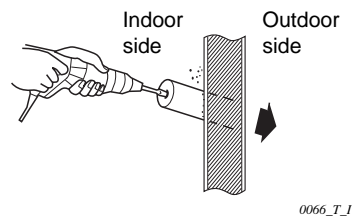

**Fig. 3-70**
- b) Lift the indoor unit and position it so that the toggle wing nuts (mounted diagonally as shown in Fig. 3-70) slip through the suspension holes of the unit. The wings will pop out and the unit is temporarily secured.
- f) Finish the suspension by adding 1 additional hexagonal nut to each suspension bolt. Tighten these nuts tightly to prevent the upper nuts from loosening. (Fig. 3-70)